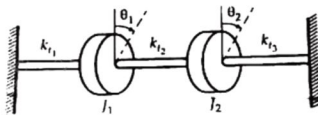

Fig. 3 (Q. 6a)
- Q6) a) Find the natural frequencies and mode shapes for the torsional system shown in Fig. 3. Assume $J_1 = J_0, J_2 = 2J_0$ and stiffness for each spring as k_i . [12]